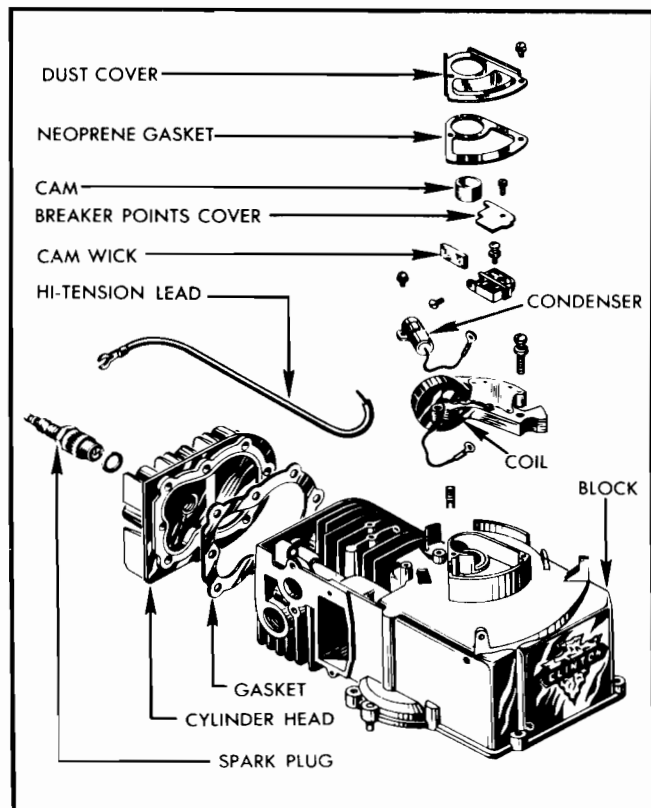

Figure No. 4
3. Note the order of parts over the magneto assembly. (See Figure No. 4.) (1) dust cover over the crankshaft, (2) a Neoprene gasket (3) breaker points cover, and (4) condenser lead. It is important that these parts be reassembled exactly as they are, with the dust cover going on last.
5. Check the breaker points (See Figure No. 4). Be sure they are set to the proper gap. .018 by using a feeler gage.
10. The only lubrication needed in the magneto is for the cam wick, which should be saturated with grease if it has dried out since serviced at the factory. Note the correct position of the cam wick as shown in Figure No. 4.